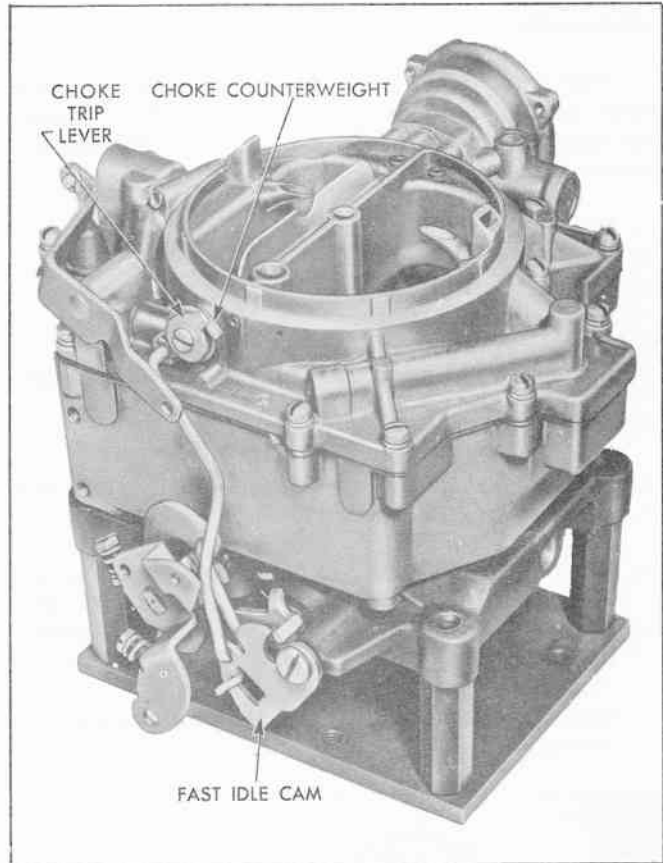

Fig. 23 Counterweight, Trip Lever and Fast Idle Cam Installed
9. Install choke counterweight, trip lever and fast idle cam (Fig. 23).